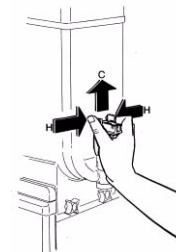

FIGURE 15
- Simultaneously apply pressure to the two securing tabs (H) and lift the dispensing valve (C) to pull it out of its position (see Figure 15).